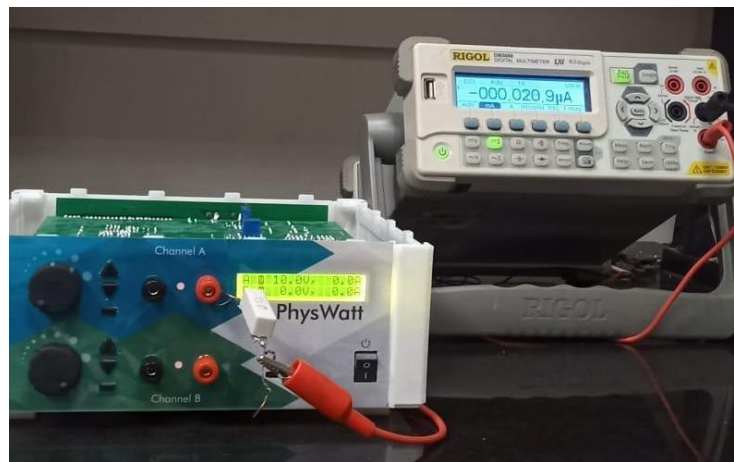

Figure 10: Connecting one end of the resistor to Channel A and the other end to the digital multimeter 3068 set at DC Current mode.
3. Connect one end of the resistor to the red terminal of Channel A and the other end to the red lead of Rigol DM3068 Multimeter, as demonstrated in Figure 10.